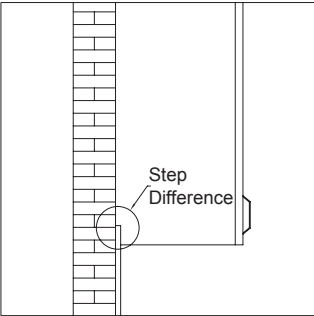
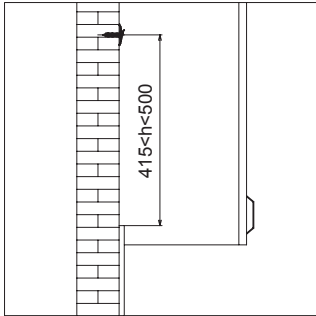
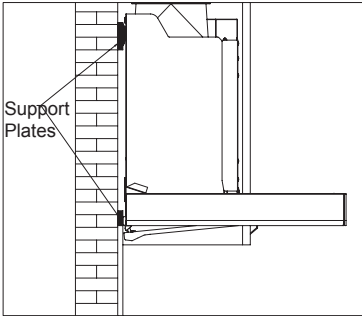

Fig. 1
Fig. 2
Fig. 3
13. Where there is a step difference on the installation wall of the range hood as shown in Fig.1, if there is a situation as shown in Fig.2, the operation shall be carried out as shown in Fig.3, i.e., the support plates shall be added on the back of the hook and the foot-pad of the range hood. The thickness of the support plates shall be consistent with the height of the steps.